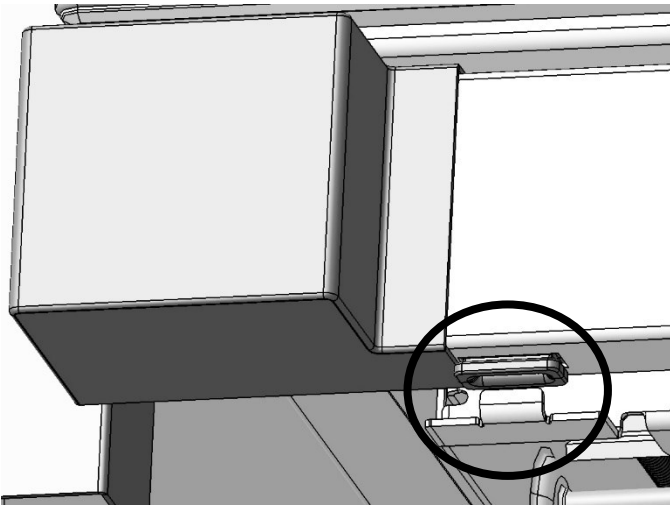
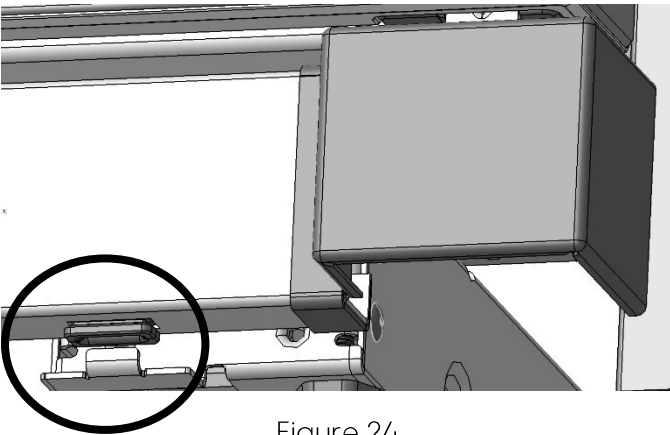

Figure 23
Figure 24
17. a. Carefully place the Toe Kick over the four Leveler Assembly Slots. The first Leveler Assembly slot is circled in Figure 23, and the fourth Leveler Assembly slot is circled in Figure 24.